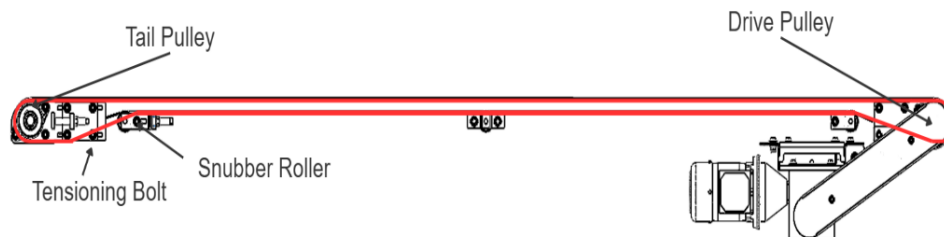
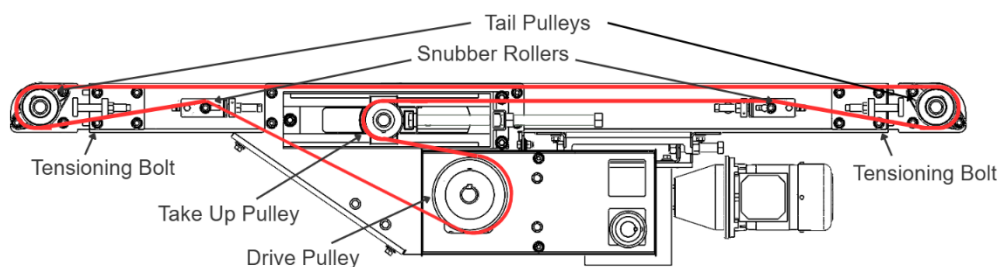

Figure 2.5 – End Drive & Side Drive Belt Routing
Figure 2.6 - Center Drive Belt Routing
- Prior to installing belt, loosen the tensioning bolts for the pulleys so the pulleys are retracted as much as possible. Refer to *Figure 2.5* for tensioning bolt locations on end or side drive models. For center drive models, see *Figure 2.6*.
- Before installing the belt, **verify that it is oriented with the correct side facing up**. Route the belt through the conveyor as shown in *Figure 2.5* for end and side drive models or *Figure 2.6* for center drive models.